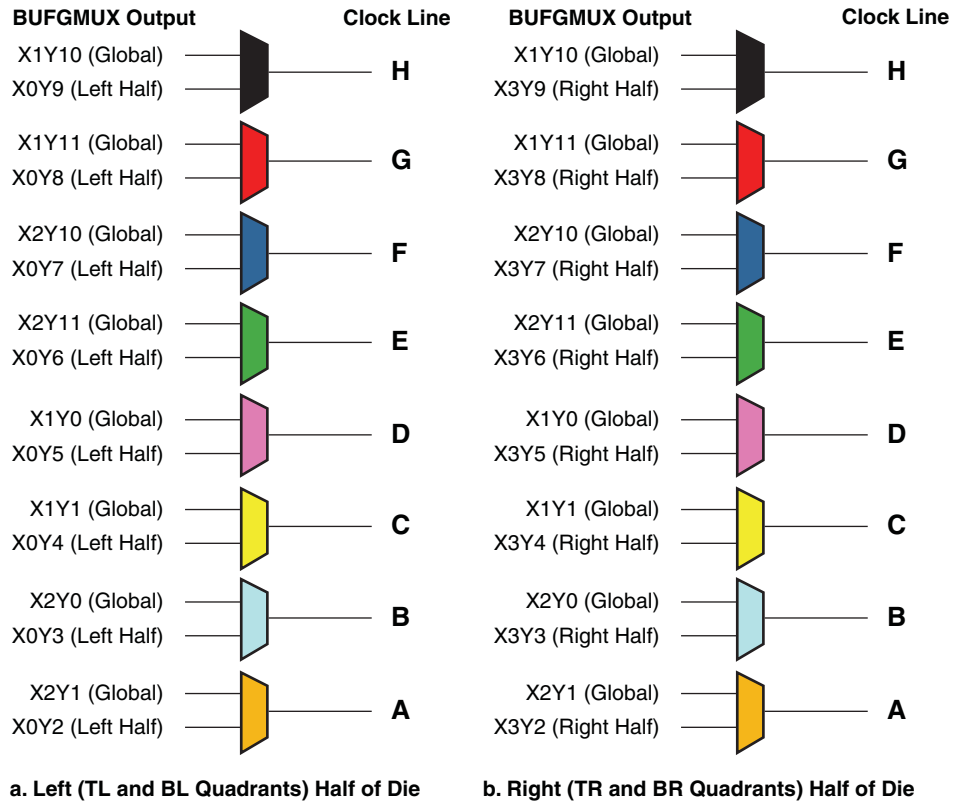

Figure 48: Clock Sources for the Eight Clock Lines within a Clock Quadrant
2. See Figure 46 for specific BUFGMUX locations, and Figure 48 for information on how BUFGMUX elements drive onto a specific clock line within a quadrant.
The clock routing within the FPGA is quadrant-based, as shown in Figure 46. Each clock quadrant supports eight total clock signals, labeled 'A' through 'H' in Table 41 and Figure 48. The clock source for an individual clock line originates either from a global BUFGMUX element along the top and bottom edges or from a BUFGMUX element along the associated edge, as shown in Figure 48. The clock lines feed the synchronous resource elements (CLBs, IOBs, block RAM, multipliers, and DCMs) within the quadrant.
Each of the eight clock signals in a clock quadrant derives either from a global clock signal or a half clock signal. In other words, there are up to 24 total potential clock inputs to the FPGA, eight of which can connect to clocked elements in a single clock quadrant. Figure 48 shows how the clock lines in each quadrant are selected from associated BUFGMUX sources. For example, if quadrant clock 'A' in the bottom left (BL) quadrant originates from BUFGMUX_X2Y1, then the clock signal from BUFGMUX_X0Y2 is unavailable